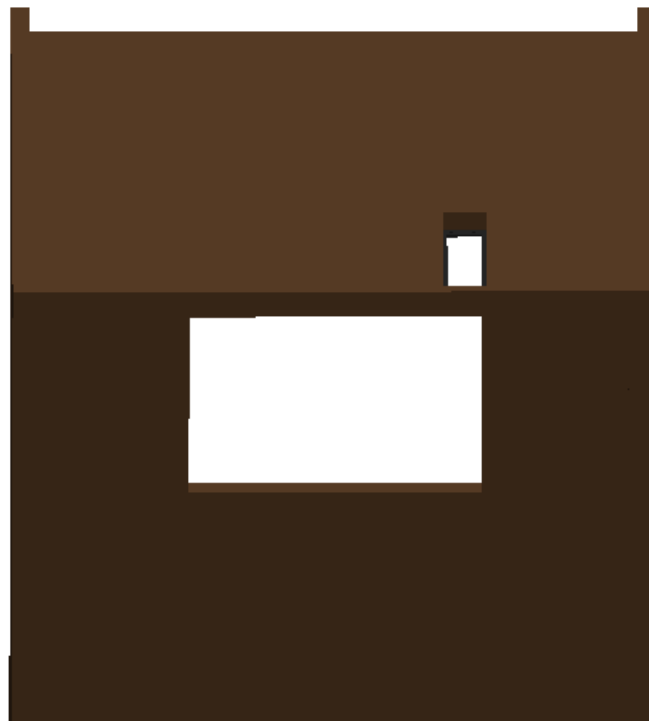

Fig. 2.2 Additional Top Cutout
- If it is a top exhaust installation, make an additional rectangular hole on the top wall of the cabinet with the same length and width of the top air exhaust as shown in Fig. 2.2.